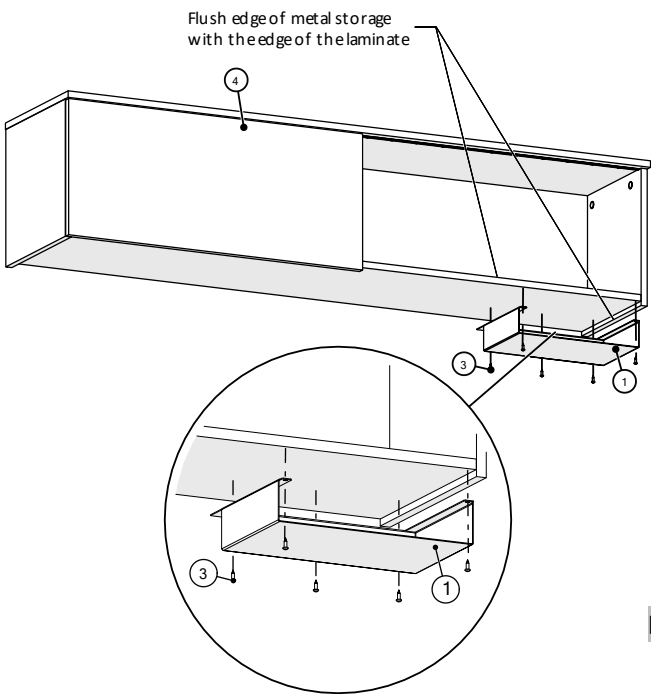

Figure 1
1. Align the edges of metal storage 1 with the edges of bottom laminate of the overhead storage. Make sure the edges of the metal storage and edges of bottom laminate of the overhead storage are flush, (Figure 1).
2. Attach the Metal Storage in the underside of Overhead Storage/Hutch using (5) #10 x 11/16" Oval Head Screws.